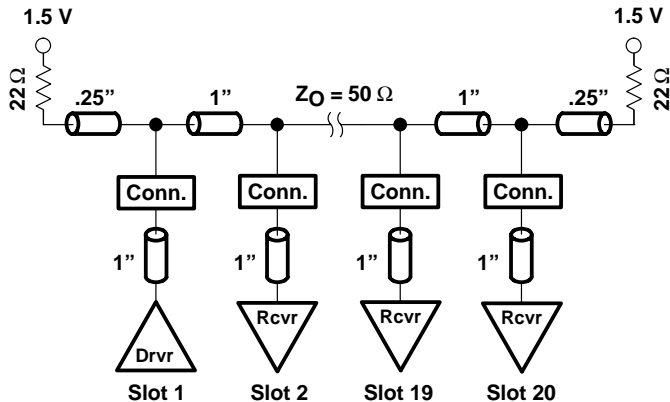
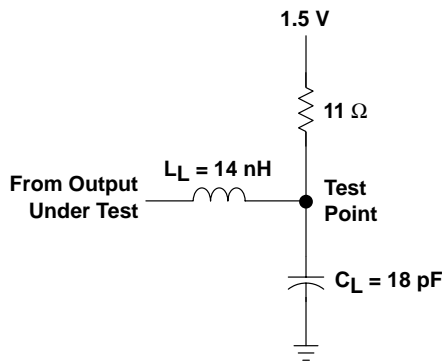

Figure 2. High-Drive Test Backplane
Figure 3. High-Drive RLC Network
The preceding switching characteristics table shows the switching characteristics of the device into a lumped load (Figure 1). However, the designer’s backplane application is probably a distributed load. The physical representation is shown in Figure 2. This backplane, or distributed load, can be closely approximated to a resistor inductance capacitance (RLC) circuit, as shown in Figure 3. This device has been designed for optimum performance in this RLC circuit. The following switching characteristics table shows the switching characteristics of the device into the RLC load, to help the designer to better understand the performance of the GTLP device in this typical backplane. See [www.ti.com/sc/gtlp](http://www.ti.com/sc/gtlp) for more information.
**switching characteristics over recommended operating conditions for the bus transceiver function (unless otherwise noted) (see Figure 3)**